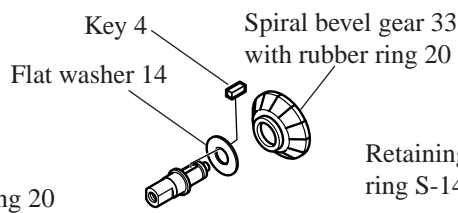

Fig. 9
- 2) Assemble flat washer 14, key 4 and the above spiral bevel gear 33 to spindle. See Fig. 9.